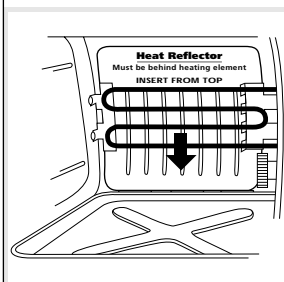

FIGURE 1
3. Slide the drip tray into machine at the base of unit. (*Figure 1*)